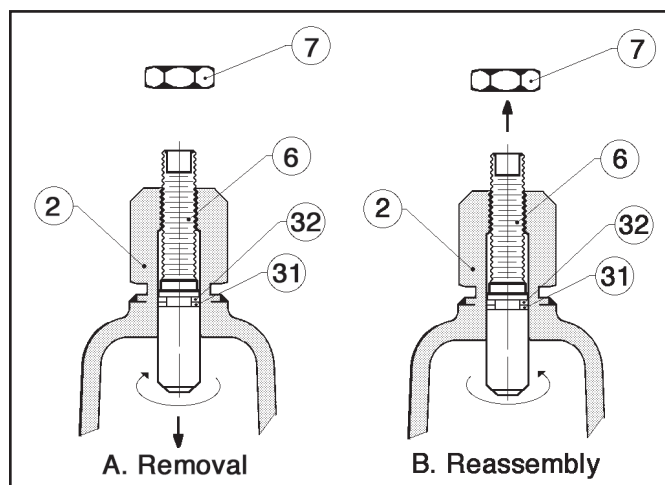

Figure 1: Adjusting screw (6) o-ring inspection.
DO NOT ATTEMPT TO REMOVE ADJUSTING SCREW (6) FROM TOP OF SPRING CHAMBER (2). The adjusting screw (6) is threaded upward from inside the spring chamber (2). The CCW rotation used to relieve range spring (14) tension will come to a stop. At the stopping point, do not apply any torque to adjusting screw (6) or damage may occur and render the unit inoperable. See Figure 1.
1. Securely install the body (1) in a vise with the spring chamber (2) directed upwards.
2. To relieve range spring (14) compression, remove closing cap (28) by turning CCW. Remove lock nut (7) by turning CCW. Turn adjusting screw (6) CCW until range spring (14) compression is relieved. **NOTE: See CAUTION C).**
3. Draw or embed a match mark between body (1) casting, body spacer (24), and spring chamber (2) casting along flanged area.
5. Remove spring chamber (2), range spring (14), spring button (4), pressure plate (3), body spacer (24), diaphragm (12), and o-rings (30).
6. Adjusting screw (6) o-ring inspection:
- a. With locknut (7) and closing cap (28) removed, turn adjusting screw (6) CW as far as possible by turning flats on top end. Carefully reach inside spring chamber (2) and grasp adjusting screw (6) by hand. **NOTE: For 1/2" (DN15) and 3/4" (DN20) size regulators a small piece of plastic tubing with a 3/4" (19 mm) inside diameter may be used to grasp the adjusting screw (6).** Complete adjusting screw (6) removal by rotating CCW. See Figure 1.
- c. Lubricate adjusting screw (6) threads. Carefully reinstall the adjusting screw (6) up into the spring chamber (2) by rotating the adjusting screw (6) CW until top of adjusting screw (6) protrudes from top of spring chamber (2). **NOTE:** *Care should be taken when holding and rotating the adjusting screw (6) so the quad ring (31) and backup ring (32) are not inadvertently nicked or torn.* Grasp top of adjusting screw (6) and turn CCW until rotation stops (**see CAUTION C**). See Figure 1.
- d. Loosely install lock nut (7) and closing cap (28).
7. Inspect pressure plate (3) for defects due to over-pressurization. Replace if defective.
9. Place first o-ring (30) on body (1) and lubricate with a lightweight multi-purpose grease. Position body spacer (24) on body with match marks aligned. Place pusher plate (11) on body spacer (24) and check for vertical movement. **NOTE:** *The vertical movement should be free and unobstructed as the pusher plate (11) is pushed down and the lower piston spring (17) contracts and expands. If movement is not free, go to Subsection C following to inspect the inner trim parts.*
10. Place second o-ring (30) on body spacer (24) and lubricate with lightweight multi-purpose grease. Position diaphragm (12) on body spacer (24) inside of o-ring (30).
11. Visually center the pressure plate (3) on diaphragm (12). Place range spring (14) onto retainer hub of pressure plate (3).
12. Place multi-purpose, high temperature grease into depression of spring button (4) where adjusting screw (6) bears. Set spring button (4) onto range spring (14); ensure spring button (4) is laying flat.
13. Using "NEW" studs (34,35) and nuts (9) (**see CAUTION D**), thread a nut onto each stud approximately 1.25" (32 mm). Drop the studs (34,35) with nuts (9) through the holes in spring chamber (2). (This will assist in keeping the spring chamber (2) centered on body (1) and prevent parts from moving during re-assembly).